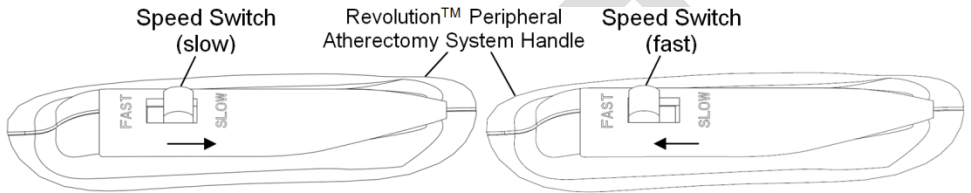

Figure 5: Test both speed positions
2. **System Test:** Insert the distal tip of the device into a basin filled with normal saline. With the speed switch in the back position (slow speed, Figure 5), depress the ON/OFF button to ensure that the abrasive burr spins freely (refer to Figure 1). Release the button to stop the rotation of the burr, once saline is observed dripping out of the aspiration port. Without removing the distal tip from the basin, push the speed switch to the forward position (fast speed, Figure 5) and depress the ON/OFF button for 5 seconds. Release the button to stop the rotation. **Precaution: Do not use the device if it does not activate immediately when the button is depressed, and deactivate immediately when the button is released in either speed setting.**